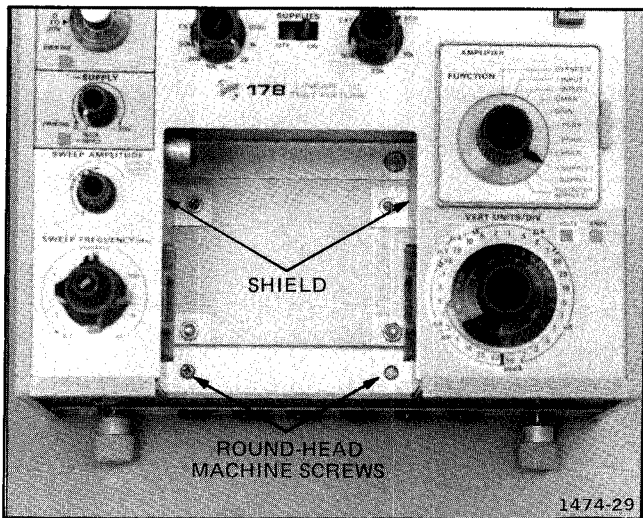

Fig. 4-3. Top view of the 178 showing storage-compartment shields.
- c. Remove the two pan-head machine screws from inside the storage compartment (see Fig. 4-3).
- d. Remove the two shields that form the side of the storage compartment. See Fig. 4-3. (The front shield held in place with two hex nuts, Fig. 4-3, need not be removed).